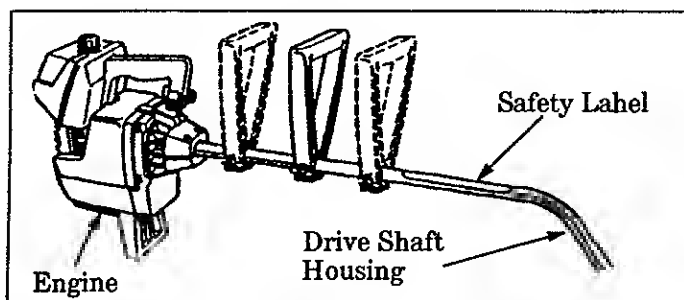

Figure 4
**CAUTION:** When adjusting the Assist Handle for comfort, be sure that the Assist Handle remains between the Engine and the Safety Label on Drive Shaft Housing. Figure 4.
- Adjust Assist Handle up or down the Shaft Housing for comfort. Figure 4.